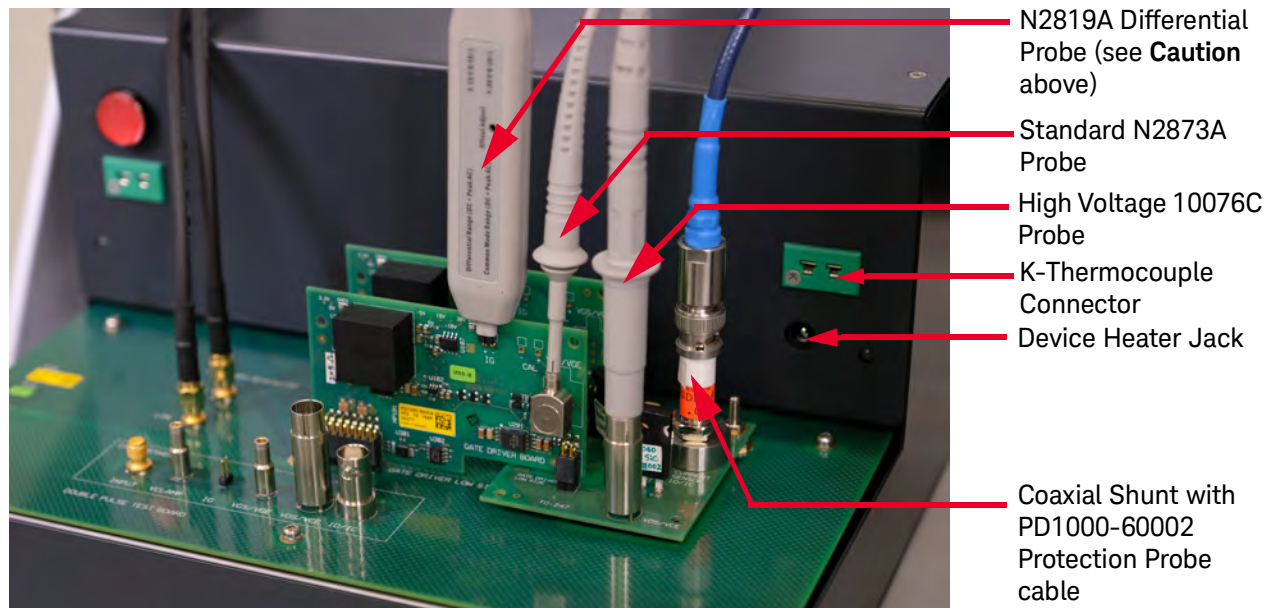

Figure 7 Connecting Oscilloscope Probes to the Test Modules (Clamp Circuit Module not shown)
Refer to Figure 7 below. Oscilloscope probes connect to the Test Fixture Modules as follows:
- The Low Side Gate Driver Module has two oscilloscope probe connections (see Figure 7 below):